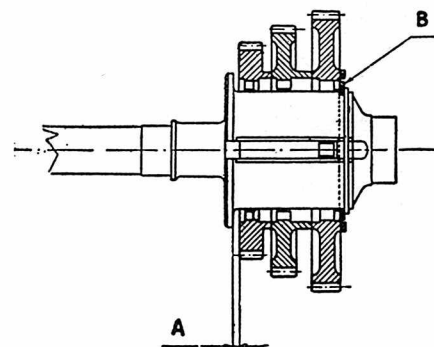

Fig. VE2-8—If end play of mainshaft gears measured at (A) exceeds 0.50mm (0.020 inch) install a thicker shoulder ring (B).
The mainshaft and pinions assembly can be disassembled by extracting the snap ring from the outer face of outer gear. Refer to Fig. VE2-8. End play of gears (A) on mainshaft should be within the limits 0.15-0.30 MM (0.006-0.012 inch) new. If end play exceeds 0.50 MM (0.020 inch) install a thicker shoulder ring (B) to reduce amount of end play. Shoulder rings are available in 4 oversizes.